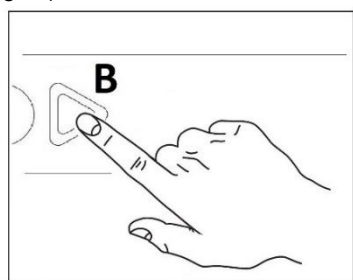

Fig.14
- 5- Press button “B” start washing cycle. (Fig.14)